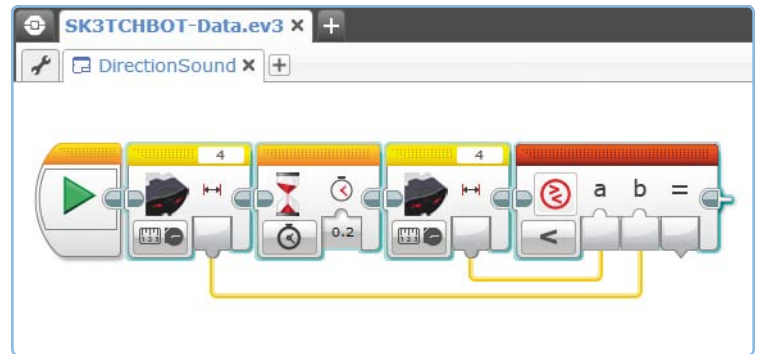

Figure 15-25: Configure the blocks for the *Direction* My Block as shown. When you're ready, drag a selection around the blocks and launch the My Block Builder.
1. Create a new program called *DirectionSound*, and place two Infrared Sensor blocks, a Wait block, and a Compare block on the Canvas, as shown in Figure 15-25. These blocks take two proximity measurements 0.2 seconds apart and compare them to see whether the second value (*a*) is less than the first (*b*). If so, then the object is approaching the sensor, and the Compare block's output will be true.